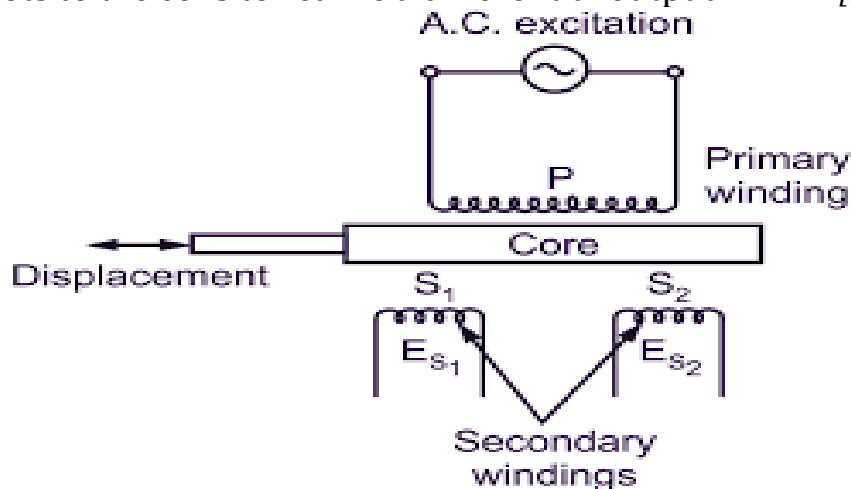

Fig.1
- (c) The operation of a LVDT depends on the mutual inductance of coils. In Fig.1, insert dots to the coils to realize a differential output. [[CO1](Analyze/IOCQ)]
- (d) Assume ac excitation and core movement frequencies are 1 KHz and 10 Hz respectively. What should be the frequency of the LVDT's differential output in Fig. 1? [[CO1] (Analyze/IOCQ)]